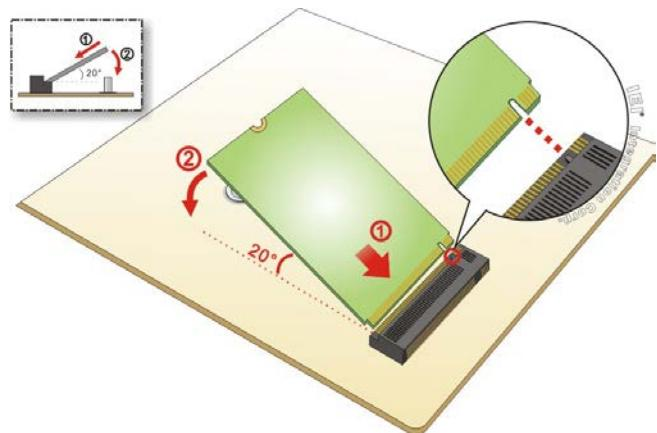

Figure 3-3: Inserting the M.2 Module into the Slot at an Angle
Step 3: Line up the notch on the module with the notch on the slot. Slide the M.2 module into the socket at an angle of about 20° (**Figure 3-3**).